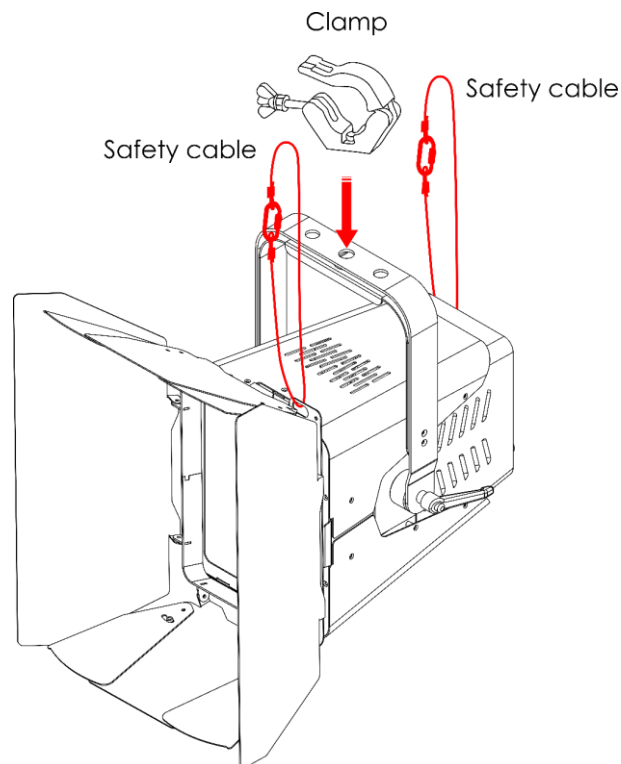

Fig. 06
- 01) Use a clamp to attach the device to the supporting structure, as shown in Fig. 06. Make sure that the device cannot move freely.
- 02) Secure the device with a secondary suspension, for example a safety cable. Make sure that the secondary suspension can hold 10 times the weight of the device. If possible, the secondary suspension should be attached to a supporting structure independent of the primary suspension. Put the safety cable through the **safety eye (08)**, as shown in Fig. 06.
- 03) If the barndoor is installed, secure the barndoor to the overhead structure with an appropriate secondary attachment, for example a safety cable. Put the safety cable through the **safety eye (15)** of the barndoor, as shown in Fig. 06.